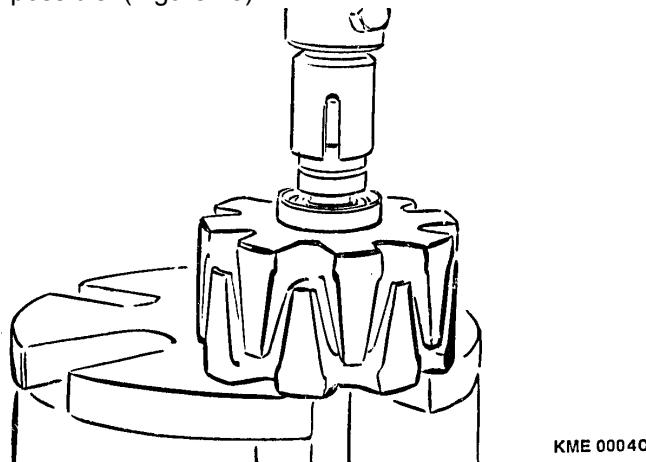

Figure 25 Pressing on Collector Rings
4. Lining up the slot in tool KDLJ 6012 (Bosch Number 0 986 618 126) with the rotor lead, press the collector rings onto the rotor as far as possible. (Figure 25)